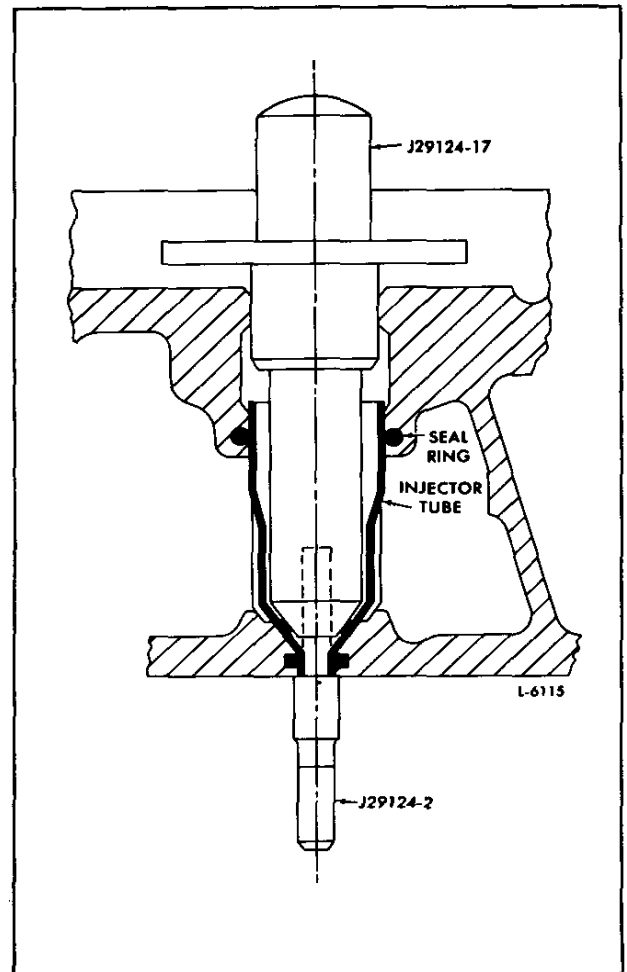

Fig. 1 - Removing Injector Tube
2. Place the injector tube installer J 29124-17 in the injector tube. Insert the pilot J 29124-2 through the small opening of the injector tube and thread the pilot into the tapped hole in the end of the installer Fig. 1.